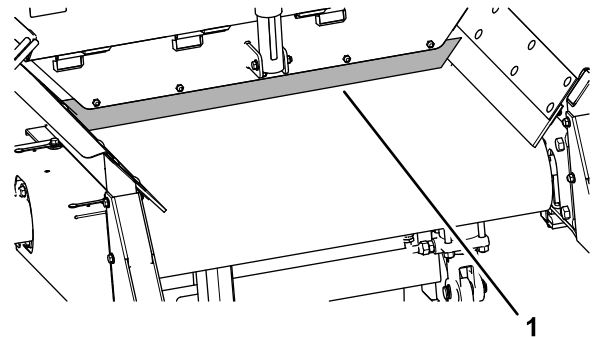

Figure 57
5. Remove the belt cleaning scraper assembly from the rear of the machine (Figure 57).